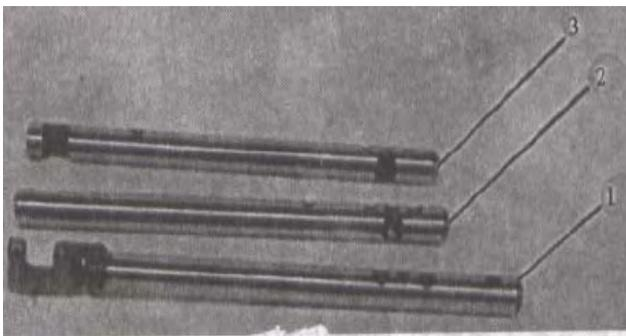

Fig 10-77
3) Shifter Forks, Shafts and Yokes (FIG.10-77、 10-78)